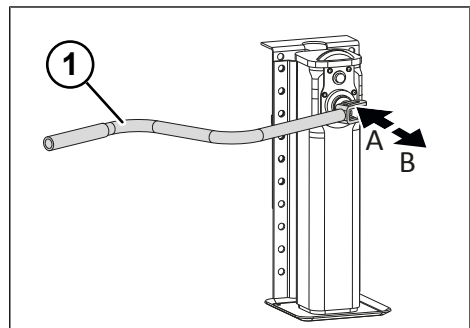

Fig. 5-3: Load speed and high speed of the rear brace
- ▶ Switch on high speed by pulling out the hand crank (see "Fig. 5-3: Load speed and high speed of the rear brace", pg. 26).
- ▶ Switch on load speed by pushing in the hand crank (see "Fig. 5-3: Load speed and high speed of the rear brace", pg. 26).
- ▶ Set to load speed by pushing in the hand crank (see "Fig. 5-3: Load speed and high speed of the rear brace", pg. 26).
- ▶ Set to high speed by pulling out the hand crank (see "Fig. 5-3: Load speed and high speed of the rear brace", pg. 26).